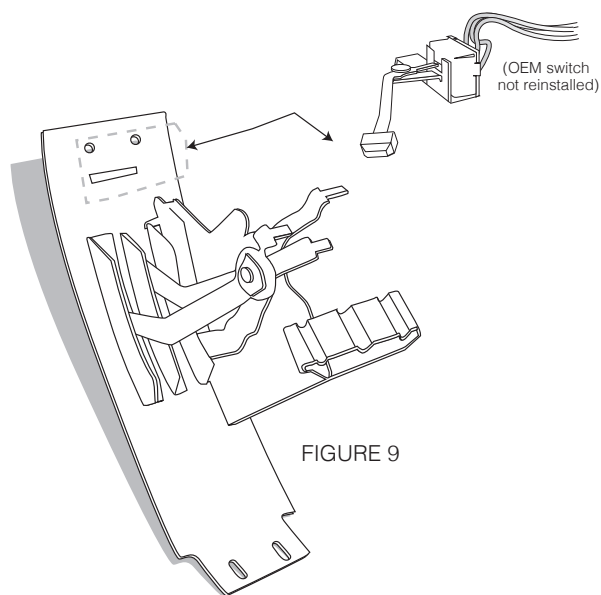

FIGURE 9
2) Remove the OEM blower switch knob. Retain the screw, you will use it again shortly. Remove the control cables and the original blower switch and set aside (these will not be reused, see figure 9).